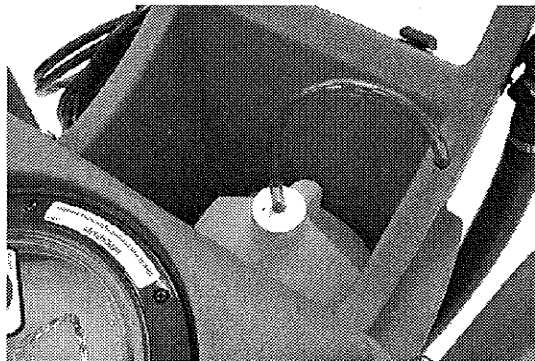

FIG. 3
3. Place the cleaning agent container into the accessory tools/cleaning formula compartment. Remove cap from container and attach blue injector tube cap. Push blue tube to bottom of container (Figure 3).